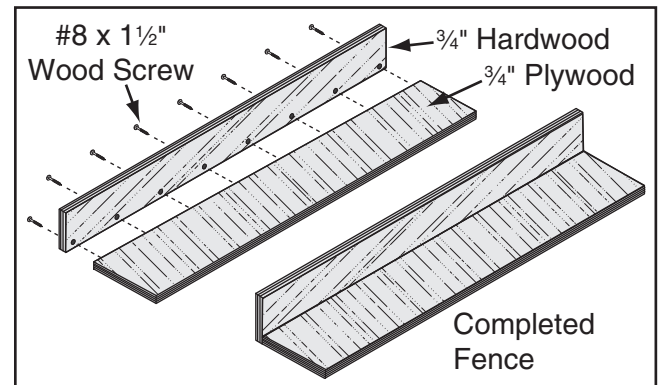

Figure 103. Location of pilot holes.
2. Pre-drill and countersink eight pilot holes $\frac{3}{8}$ " from the bottom of the 3" wide board, then secure the boards together with eight #8 x $1\frac{1}{4}$ " wood screws, as shown in **Figure 103**.